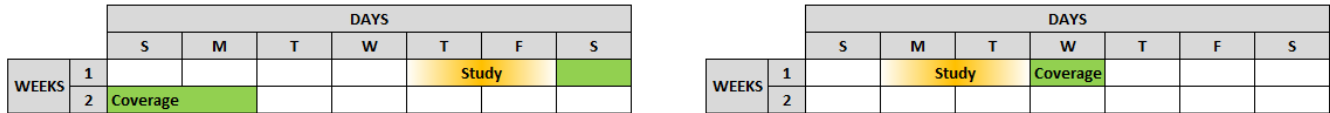

Figure 8: Sample 1 Day AA Process Timeline
This process repeats daily on business days22 with Study and Coverage Periods as identified in Figure 8 below.
- Study Period begins 16:00:00 EST on business days and ends at 13:59:59 EST, 1 business day later as shown in Figure 8.
- Coverage Period begins 00:00:00 EST on the 2nd business day after the beginning of the Study Period and ends at 23:59:59 EST on the 2nd business day after the beginning of the Study Period as shown in Figure 8.